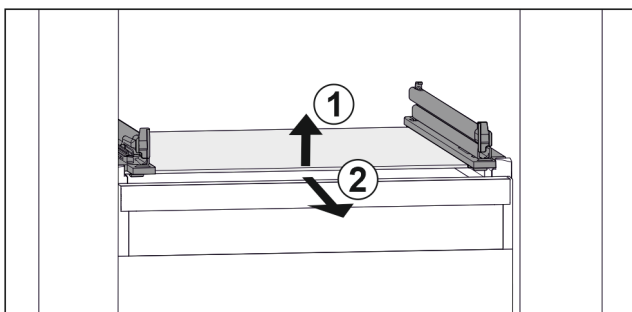

Fig. 142 Example illustration of glass shelf
- ▶ Lift glass shelf at the front. Fig. 142 (1)
- ▶ Remove glass shelf to the front. Fig. 142 (2)